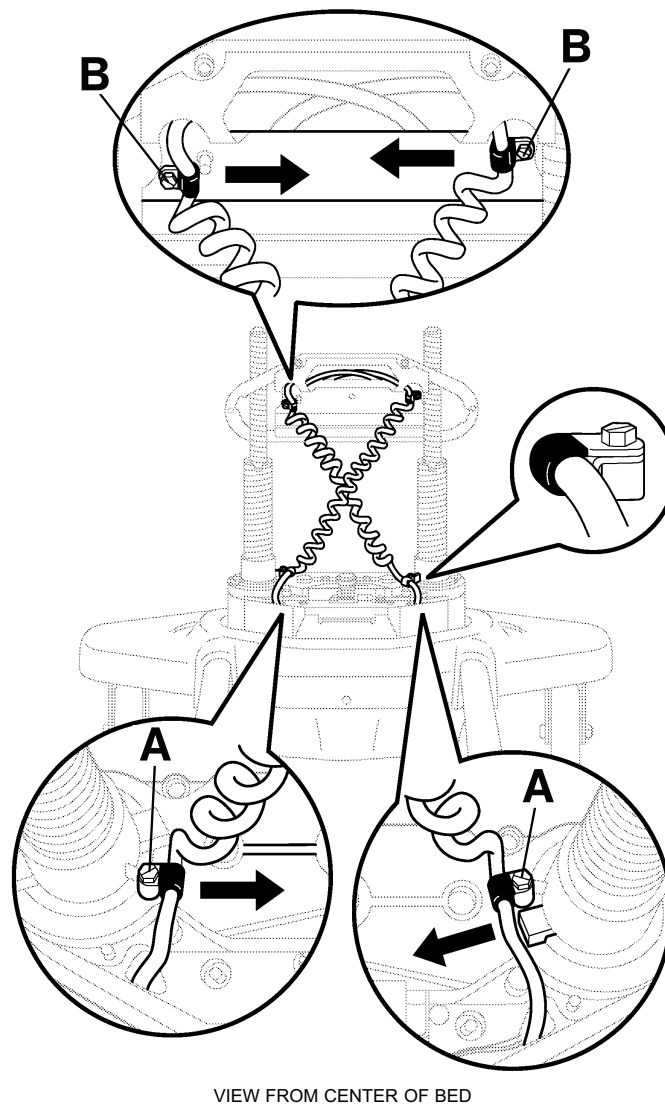

Figure 12 – Header crossbar assembly and coil cords location
7. Using a 5/16" socket or nut driver and a 1/4" drive ratchet, remove the two screws (A) that secure the cable clamps to the top of the lift housing (Figure 12).
8. Using a 5/16" socket or nut driver and a 1/4" drive ratchet, remove the two screws (B) that secure the cable clamps to the underside of the header crossbar assembly (Figure 12).
11. The cords should now be completely removed from the bed. Reverse steps to install the new power and sensor cords. See Figure 12 for proper cord clamp placement.